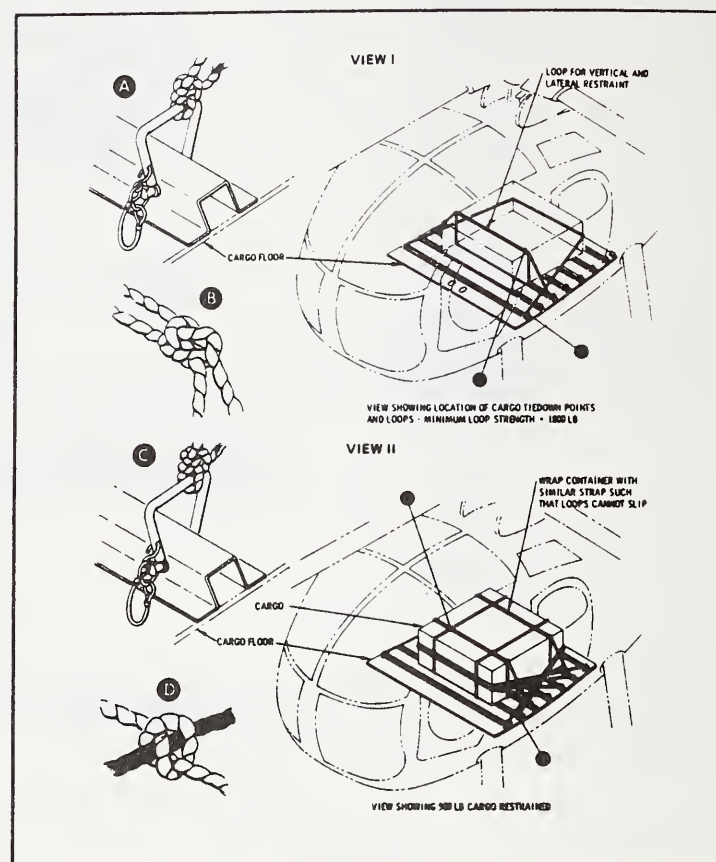

Figure 36. 500D Cargo restraint.
- Position restraining loop in accordance with figure 6-7. (figure 36).
- View II shows typical tiedown for 500-pound cargo. (See figure 36)